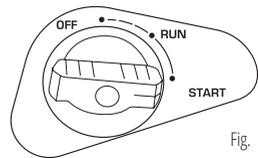

Fig. 3
4. Turn the air choke control knob to the “START” position (Fig. 3)